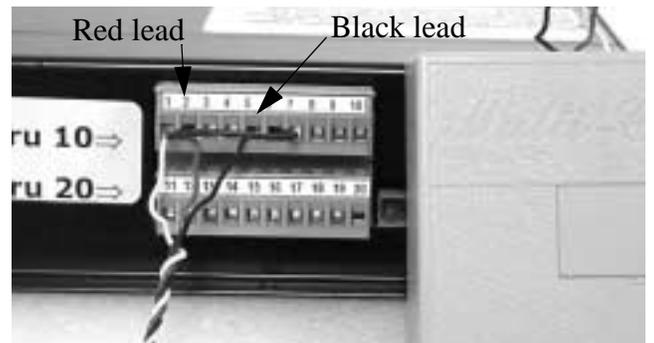

Figure 20. Contacts Connection
2. Connect the white wire of the RC-10 controller unit to terminal #1 (see Figure 20).